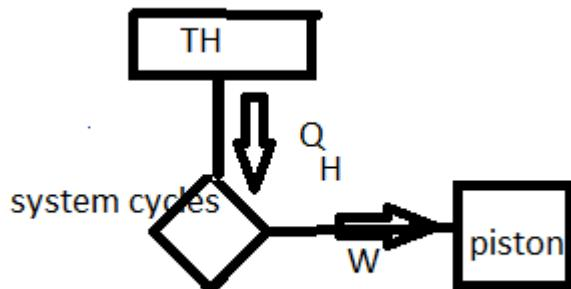

Figure 4: Impossible Heat Engine
The air conditioner is used in the summer to transfer heat from inside of the house (cold reservoir) to outside of house (hot reservoir). It has the same scheme as the refrigerator, Figure 4. Its COP is defined as output (Q_C) divided by input (W) satisfies:
Heat pump is used in the winter to transfer heat from a cold place (outside of house) to a hot place (inside of house). It has the same scheme as the refrigerator, Fig.4. Its coefficient of performance is ratio of output (heat introduced in hot place) to input (work).